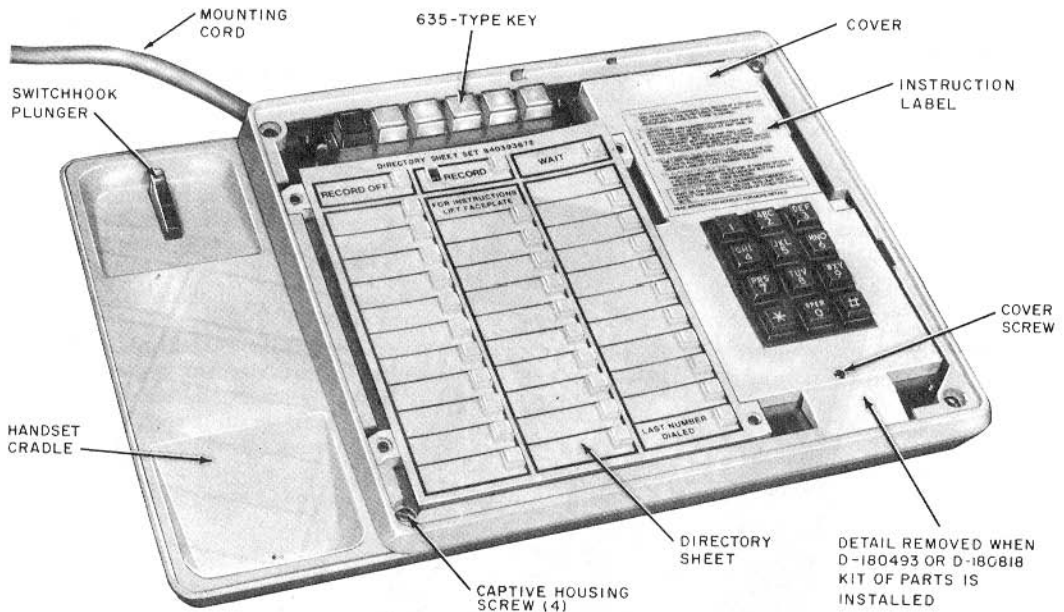

Fig. 2—2872A2M Telephone Set—Faceplate and Handset Removed
**2.07 Operating Features (Fig. 2).**
- Line key (635BT5), 6-button key. Hold with five line pickup buttons which are convertible to nonlocking. An additional momentary contact (logic reset switch) is attached to the Hold side of the key to reset the logic circuit anytime a key button is depressed.
**3.05** The directory sheets (Fig. 2) fit over the buttons of the memory and are held in place by the faceplate. Additional sheets are available in the directory sheet set, 840393672.
- (5) Make connections per Table C, E, or F.
- (6) Break off the detail at the bottom of the cover (Fig. 2) and trim edge as required.
- (7) Verify correct operation of the option.
- (8) Reassemble set.